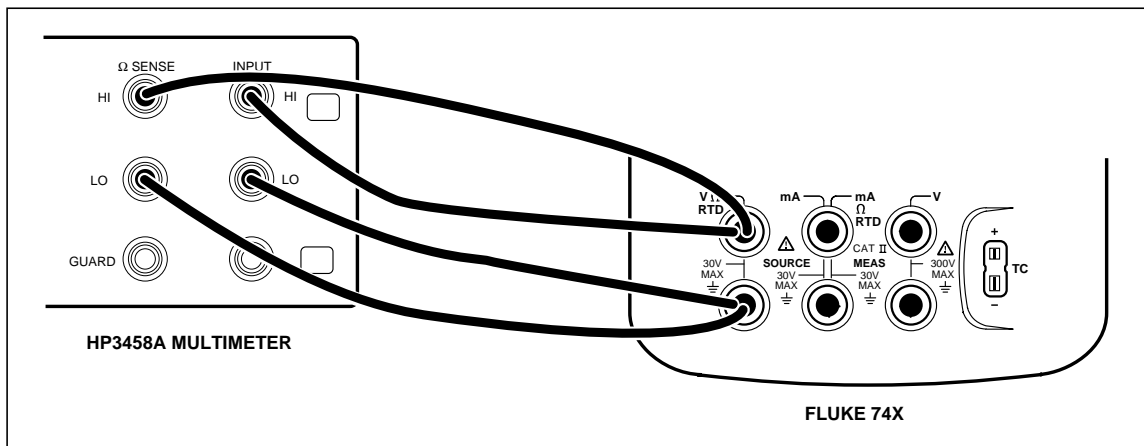

Figure 9. Resistance Source Verification Connections
1. Connect the UUT to the HP3458A as shown in Figure 9. Use a four-wire connection transitioning to two wires at the UUT.